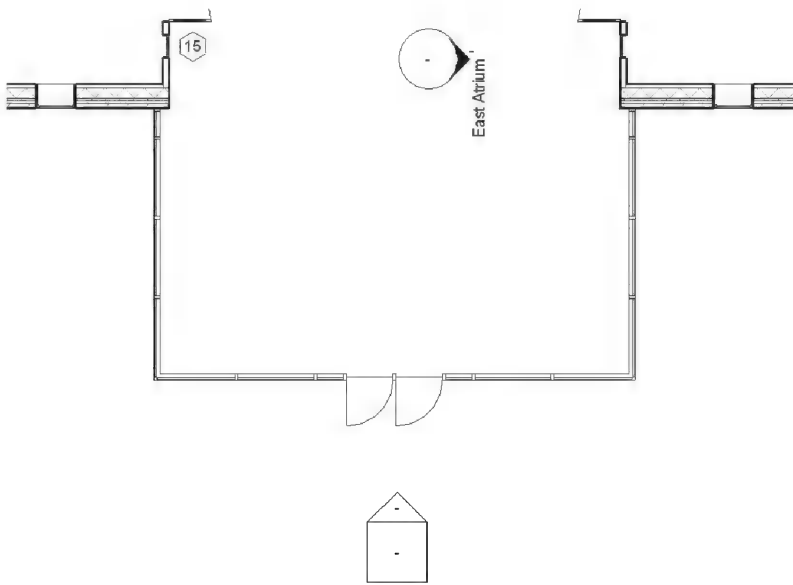

FIGURE 8-5.9 Level 1 plan view with curtain wall mullions
19. Switch to the **Level 1** plan view to see the added curtain wall mullions and doors (Figure 8-5.9).